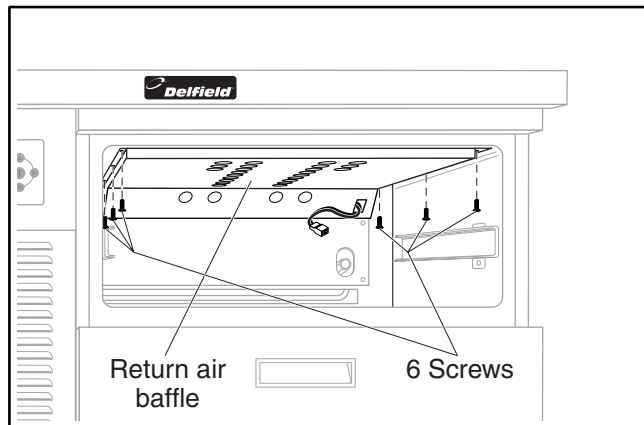

Figure 4. Return Air Baffle
1. Remove screws from return air baffle (Figure 4).